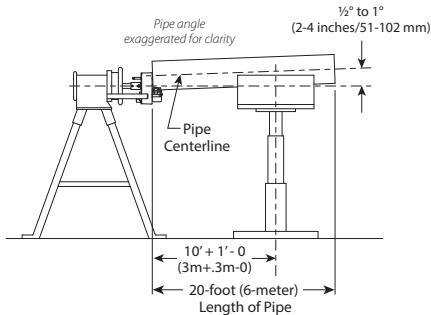

FIGURE 1 - SUPPORT OF PIPE
- b. Place the pipe stand at a distance slightly beyond half the length of the pipe/tubing from the tool. Refer to Figure 1 above.
d. Adjust the height of the pipe stand so that the pipe is approximately $\frac{1}{2}^\circ$ to 1° **ABOVE** level. Refer to Figure 1. **NOTE:** The pipe/tubing must be inserted into the rolls while the height of the pipe stand is adjusted.
- Figure 1 shows the Victaulic Adjustable Pipe Stand (VAPS 112). The VAPS 112 is suitable for $\frac{3}{4}$ – 12-inch sizes. The Victaulic Model VAPS 224 is suitable for 2 – 24-inch sizes. Refer to the “Accessories” section.